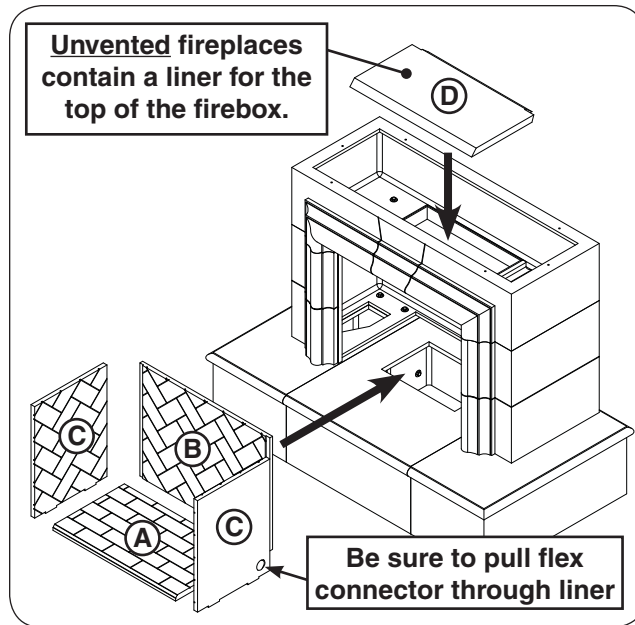

Fig. 19-1 Install firebox liners
1. Install the firebox liners into the interior of the firebox in the order shown in Fig. 19-1.